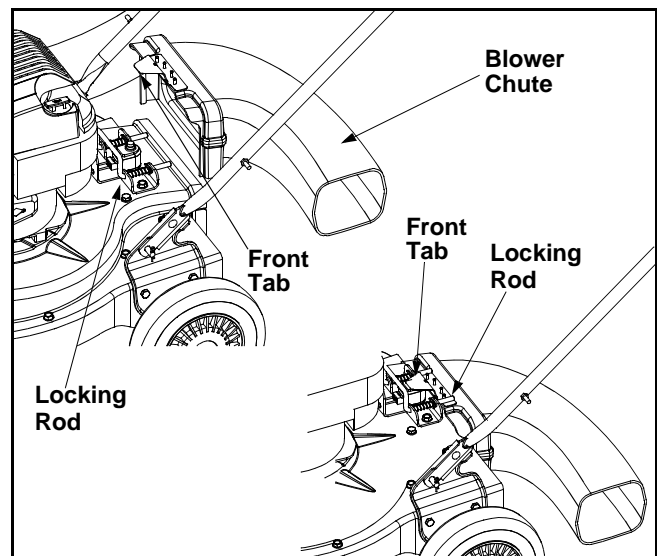

Figure 5
- Grasp blower chute with one hand and slide locking rod on mounting bracket with other hand toward engine. Use end of mounting bracket as leverage when sliding the locking rod. See Figure 5.
- Grasp blower chute with one hand and pull lock rod on mounting bracket with other hand toward engine to release. Refer to Figure 5.